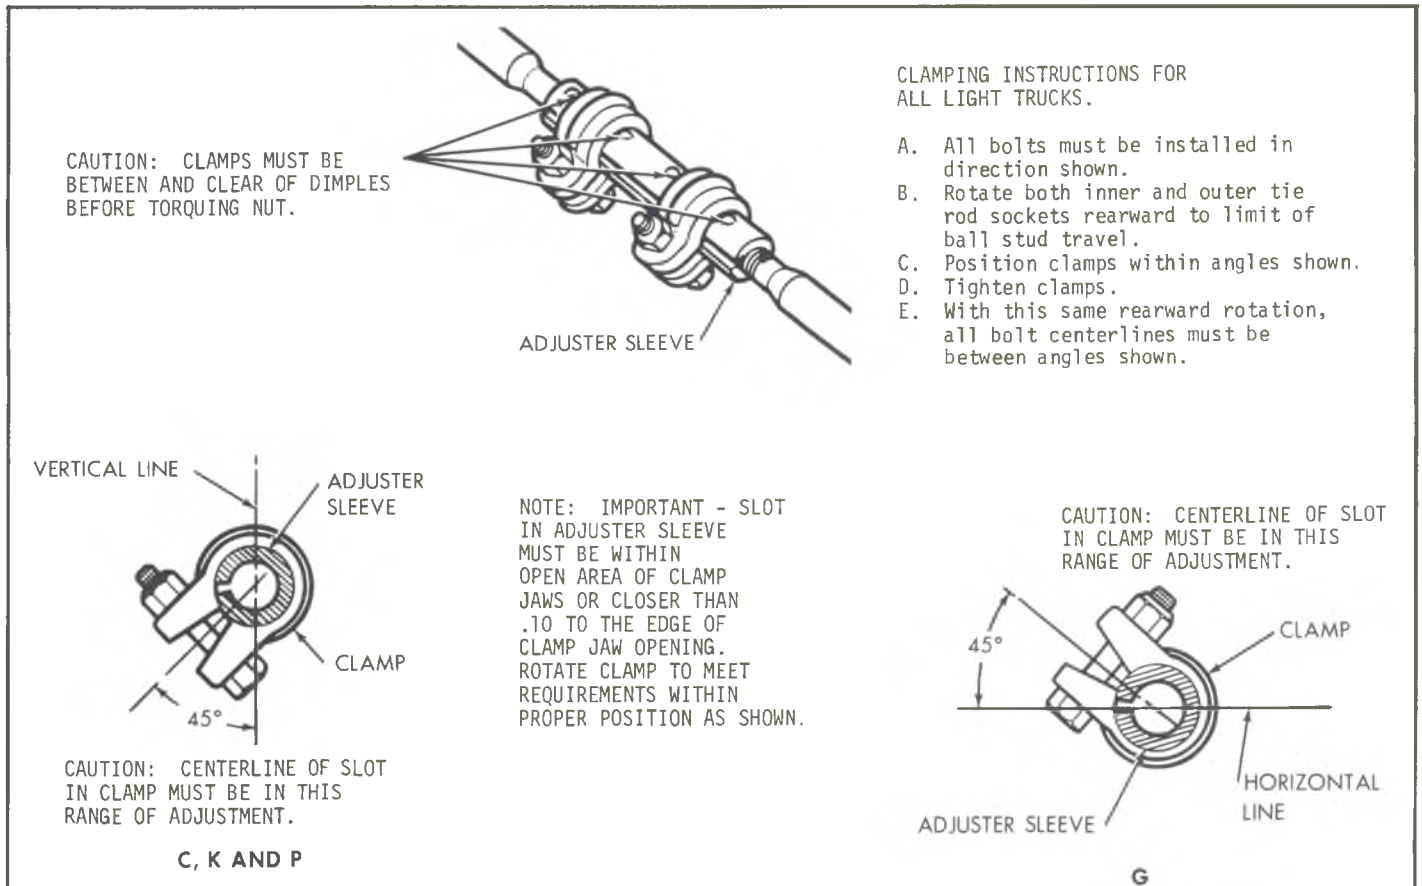

Fig. 104—Tie Rod Clamp Relationships
- C** All bolts must be installed in directions shown - Figs. 104 and 104B
- b. The clamps must be positioned within the angular travel indicated in Figure 104.
- c. The relationship of the clamp slot with the slit in the sleeve should be maintained as shown in Figure 104.